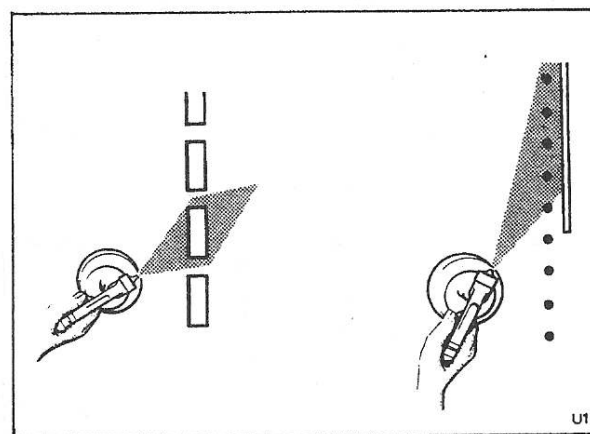

Fig. S74 Slender open work spraying
4. **Slender open work.** Grilles and similar work should be sprayed so that the majority of paint covers the largest area at each stroke of the gun. Wire or other intricate work should be sprayed at an acute angle (see Fig. S74). It is recommended that a shield is used behind the wire, so that paint deflected from the shield will help to coat the back of the work.